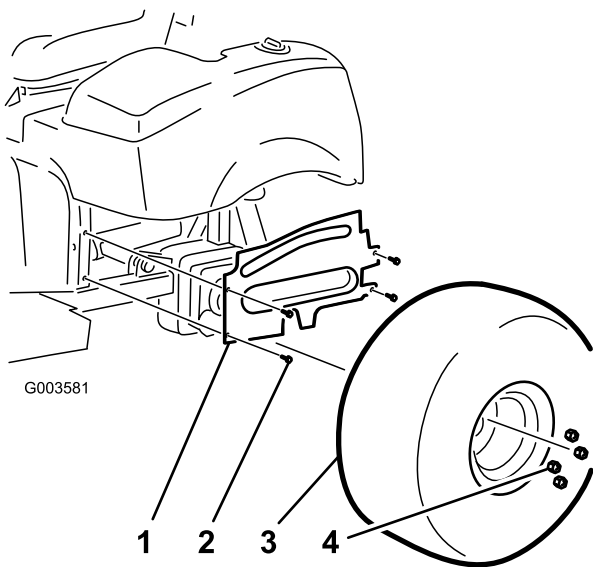

Figure 5
4. Remove the 4 flange-head screws securing the left-hand wheel shroud to the frame (Figure 5). Remove and retain the shroud and hardware.